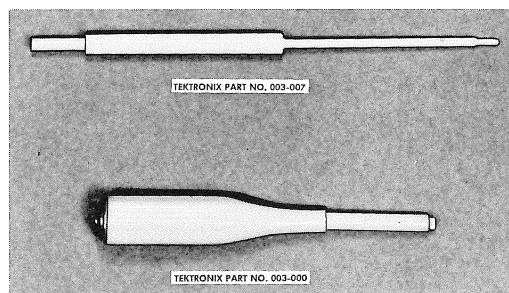

Fig. 5-1. Low capacitance, insulated alignment tools used to adjust the Type H Plug-In Unit
11. Alignment Tools (see Fig. 5-1).